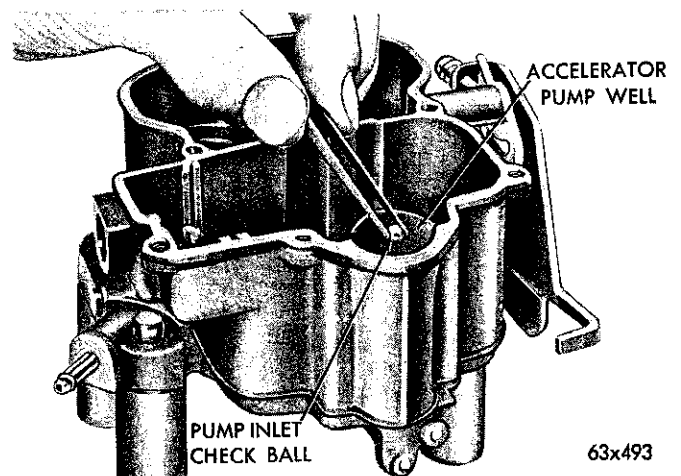

Fig. 12—Installing Accelerator Pump Inlet Check Ball
(4) Install the accelerator pump inlet check ball ( $\frac{3}{16}$  inch) in the pump well, as shown in Figure 12.